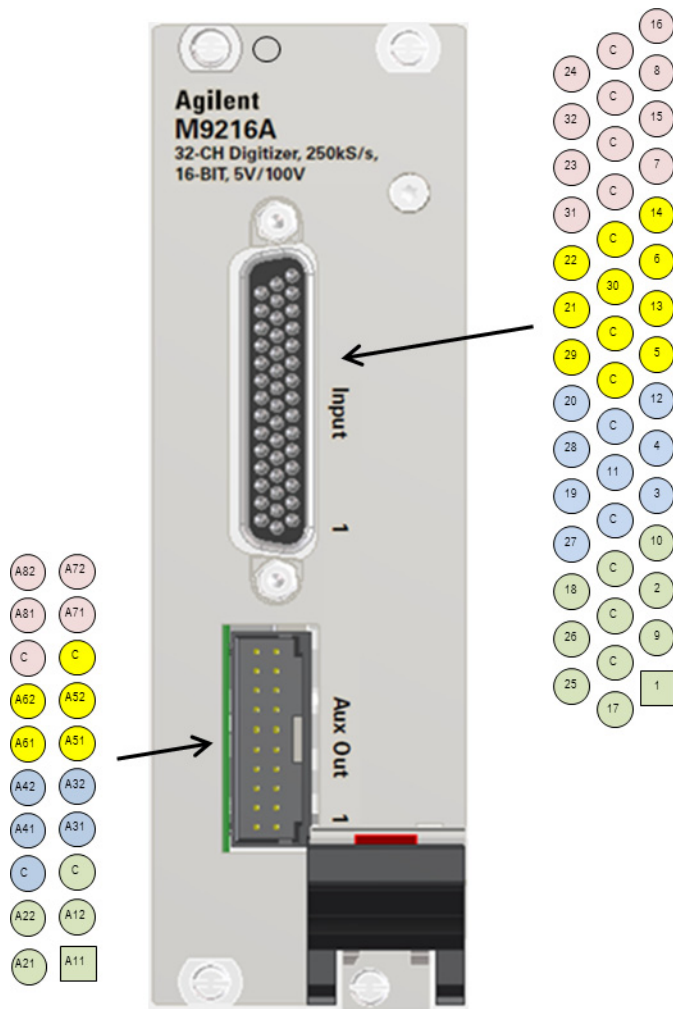

Figure 1-2 Front panel input and auxiliary output port layout for the M9216A
- Figure 1-2 Front panel input and auxiliary output port layout for the M9216A 4
- The front panel port layout is shown in Figure 1-2. The next section will provide a broad overview of the internal architecture and the capabilities of the M9216A.